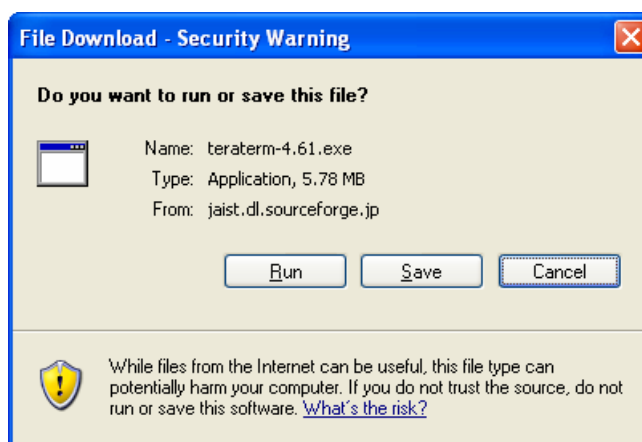

Figure 6-9: File Download Screen
3. Click **Run** on the **File Download** screen (Figure 6-9).